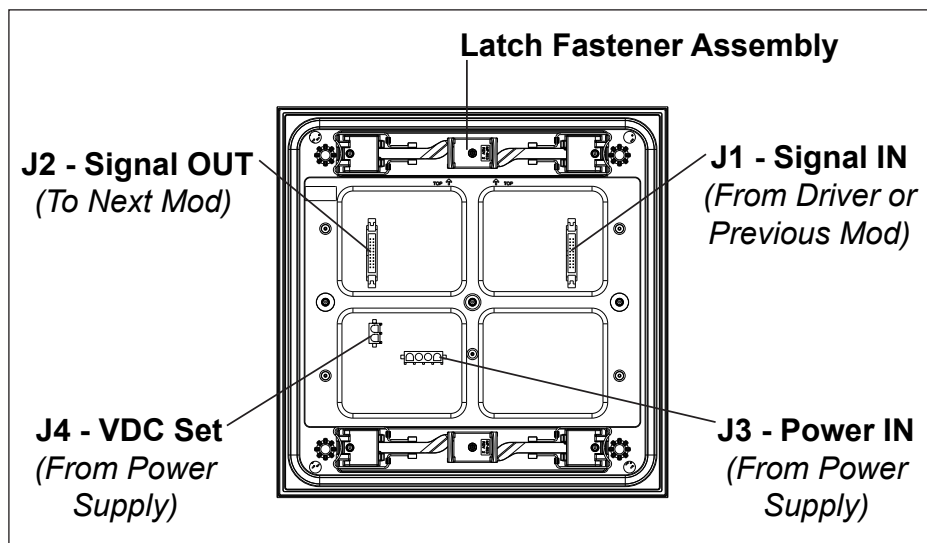

Figure 23: Module, Rear View
2. Use a 1/8" hex wrench to loosen the latch fastener assembly (**Figure 23**). Turn each fastener 1/4 turn. ***Do not over turn the fastener!***